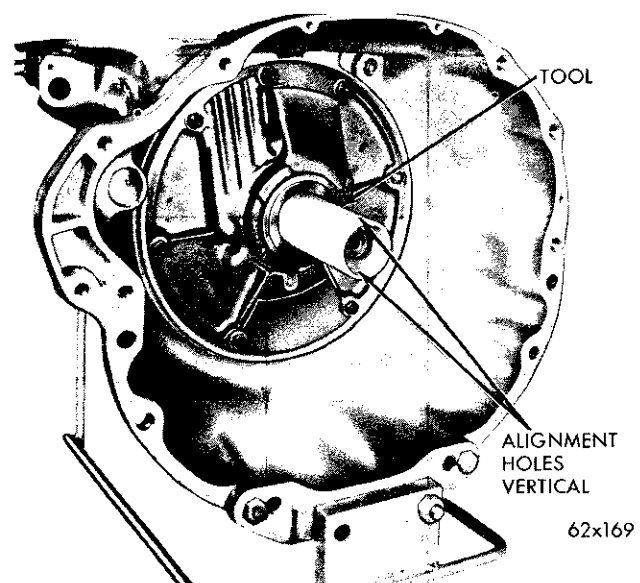

Fig. 89—Aligning Front Pump Rotors
(1) Rotate the front pump rotors with Tool C-3881 until the two small holes in the handle of Tool are vertical (Fig. 89).